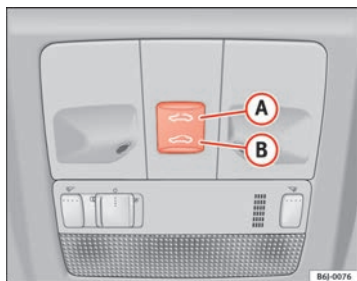

Fig. 50 Panorama/tilting sunroof
- Press and hold button **(B)** ⇒ fig. 50 ⇒ . The roof starts to close until the button is released.